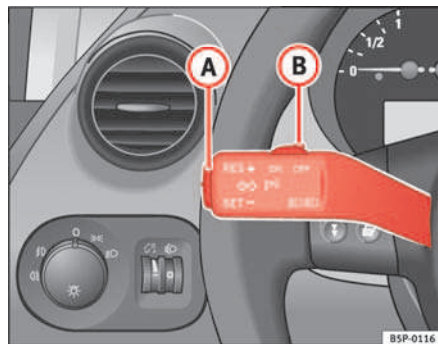

Fig. 139 Turn signal and main beam lever: Switch and rocker switch for CCS
- Push the switch ⇒ fig. 139 **B** to the left to the position **ON**.